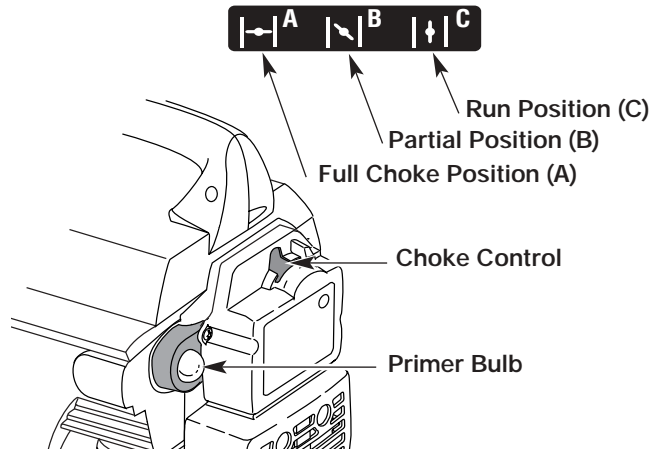

Fig. 10
3. Fully press and release primer bulb slowly 5 to 7 times. Fuel should be felt and visible in the bulb (Fig. 10). If fuel hasn't entered the bulb, press three more times, or until it does.
4. Place the Choke Control in the **FULL** choke (A |←|) position (Fig. 10).
7. Place the Choke Control in the **PARTIAL** (B |→|) position (Fig. 10).
10. Allow the engine to warm up for 5 to 10 seconds. Place the choke control in the **RUN** (C |↑|) position (Fig. 10).
NOTE: Choking is unnecessary when starting a warm engine. Put the throttle control in the fast position (☛) (Fig 10) and start unit with the choke control in the **PARTIAL (B |↘)** position (Fig. 10).